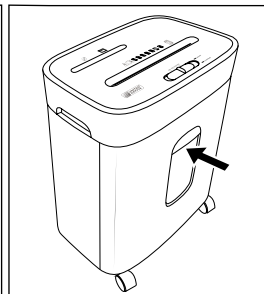

Fig. 4
- ◆ Slide the large waste collector **13** fully into the appliance base **15** (see fig. 4).